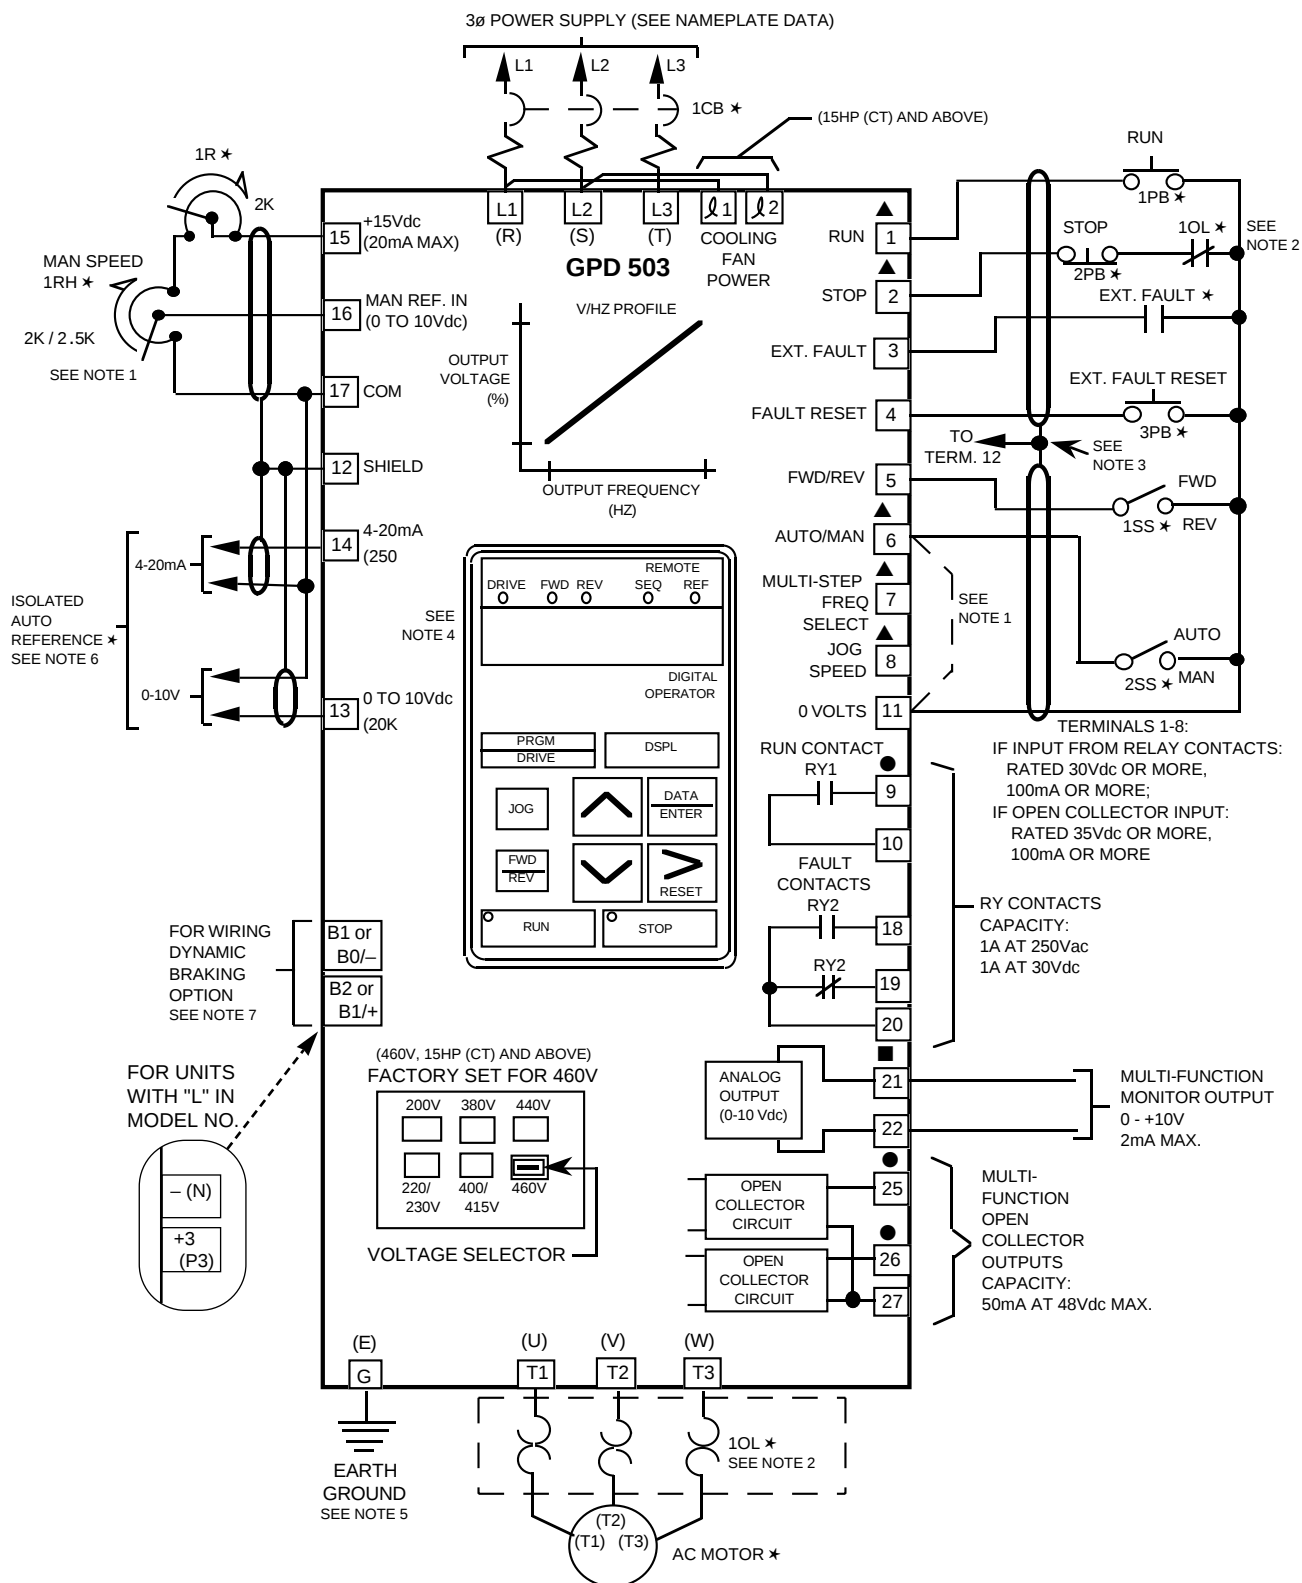

Figure 1-4. 230V or 460V Interconnections - 3-Wire Control
- Interconnections for external three-wire control in combination with the Digital Operator are shown in Figure 1-4 (for 230V or 460V rated drives) and Figure 1-6 (for 575V rated drives).
NOTES FOR FIGURE 1-4